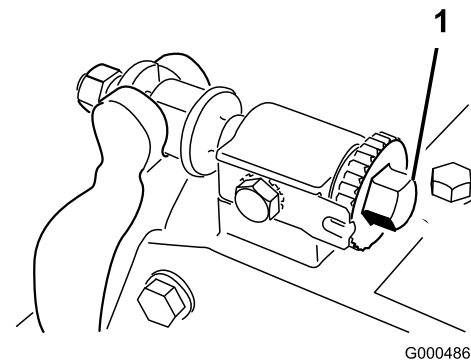
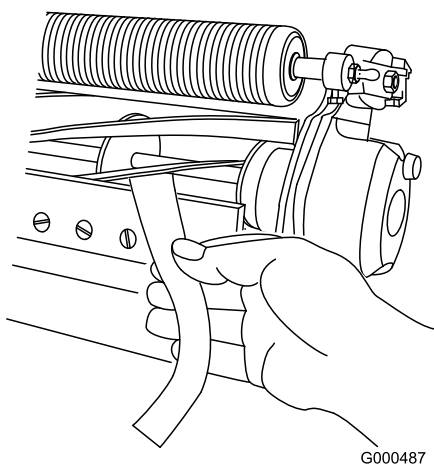

Figure 54
Figure 55
2. Make sure reel contact is removed by turning bedbar adjusting screws counterclockwise (Figure 54).
4. At one end of reel, insert a long strip of newspaper between reel and bedknife (Figure 55). While slowly rotating reel forward, turn bedbar adjusting screw clockwise (on same end of reel) (Figure 54), one click at a time, until paper is pinched lightly, when inserted
6. After adjustment is accomplished, check to see if reel can pinch paper when inserted from the front and cut paper when inserted at a right angle to the bedknife (Figure 55). It should be possible to cut paper with minimum contact between the bedknife and the reel blades. Should excessive reel drag be evident it will be either necessary to backlap or regrind the cutting unit to achieve the sharp edges needed for precision cutting (see Toro reel sharpening manual).